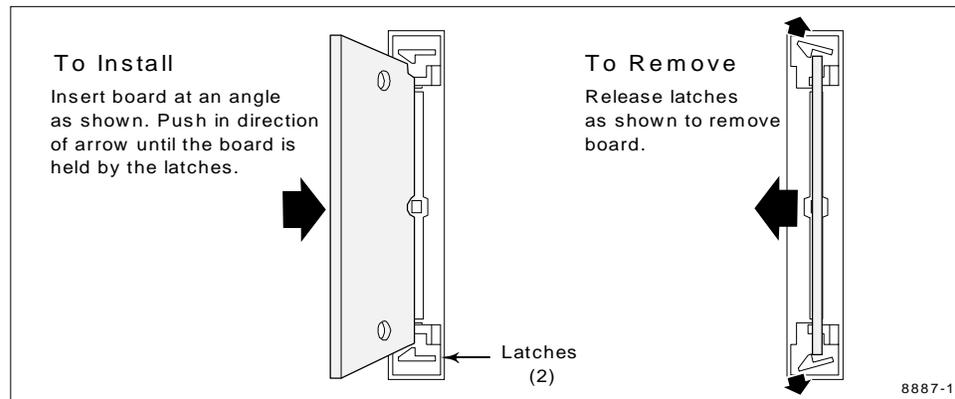
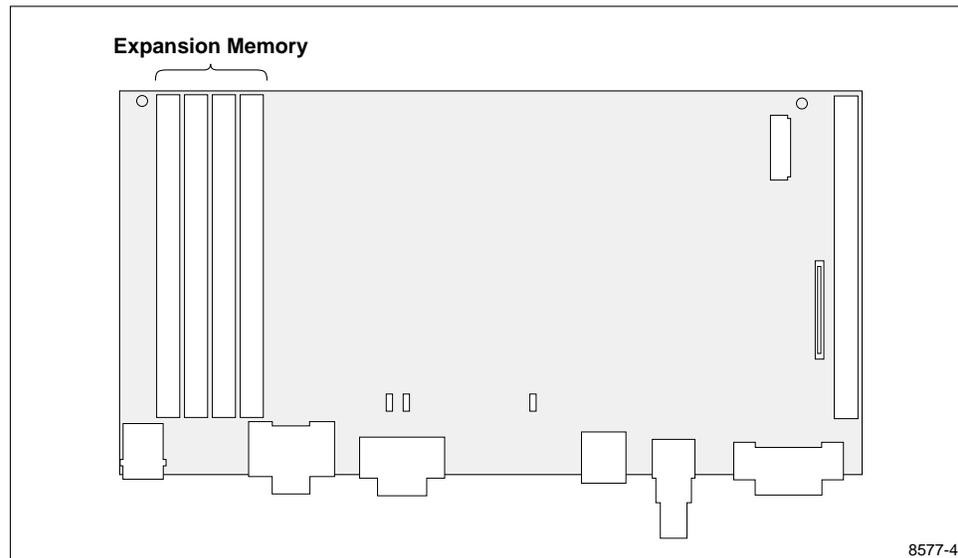
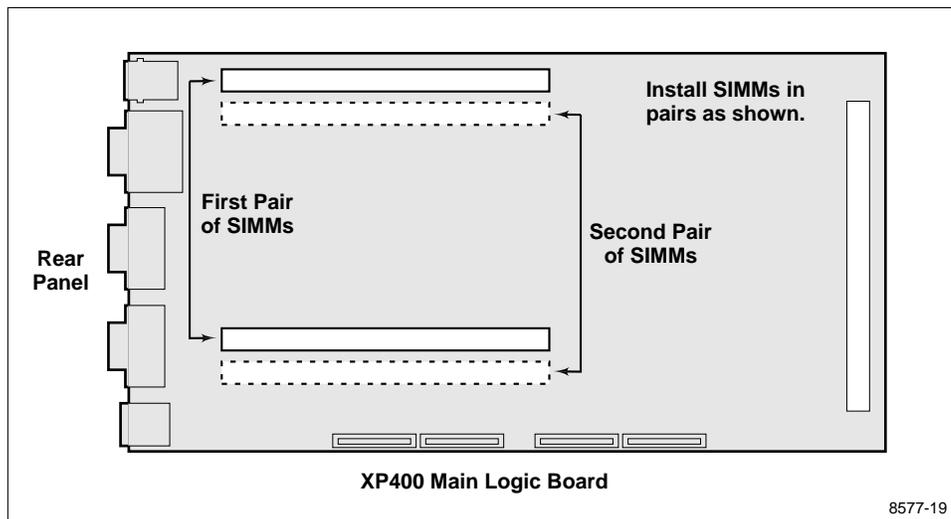

Figure 18. Installing and Removing Expansion Memory
Figure 19. XP350 Expansion Memory Socket Location
Figure 20. XP400 Expansion Memory Socket Location
1. Locate the Expansion Memory sockets (refer to Figure 19 or to Figure 20), then plug the pair of Expansion Memory boards into two of the four sockets. Latch each board in place as shown in Figure 18. Remember that the boards must be installed in alternate (non-adjacent) sockets.